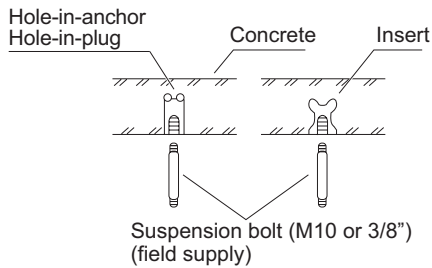

Fig. 1-21
- Insert suspension bolts as shown in Fig. 1-21
- (2) Screw in the suspension bolts allowing them to protrude from the ceiling as shown in Fig. 1-21.